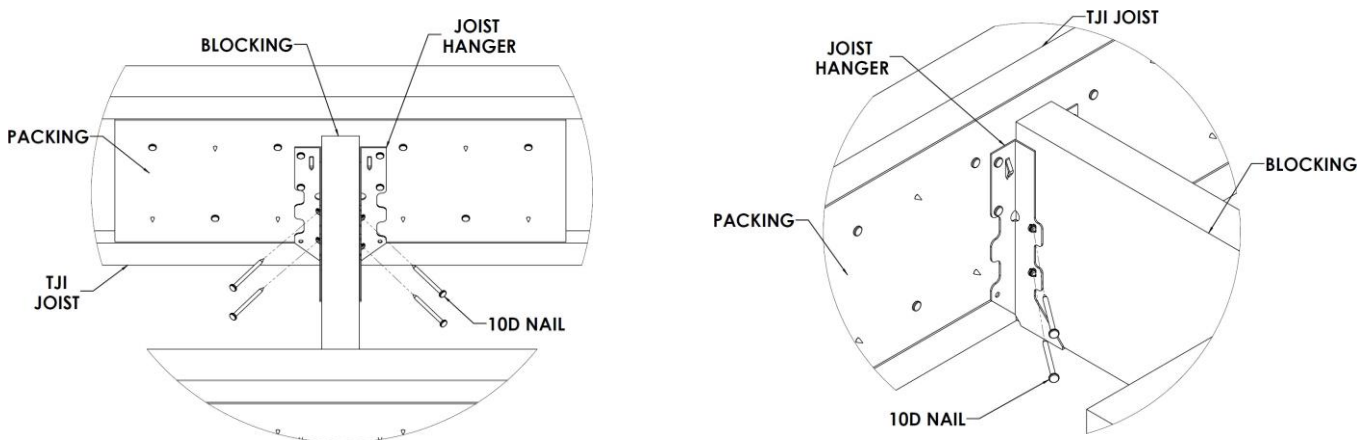

Figure 198: **Joist Hanger Nail Positions**
- Drive four nails through the angled holes on each joist hanger into the blocking, (Figure 198).